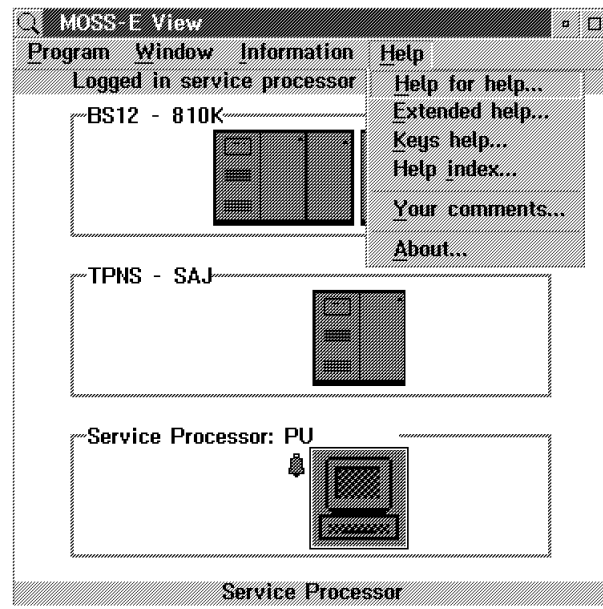
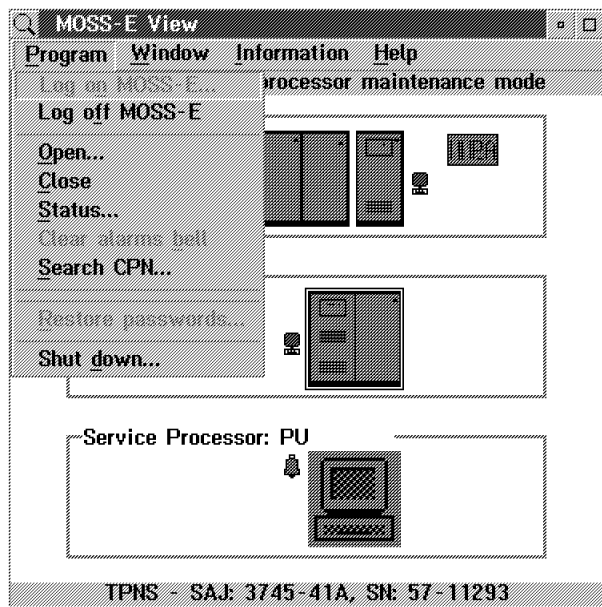
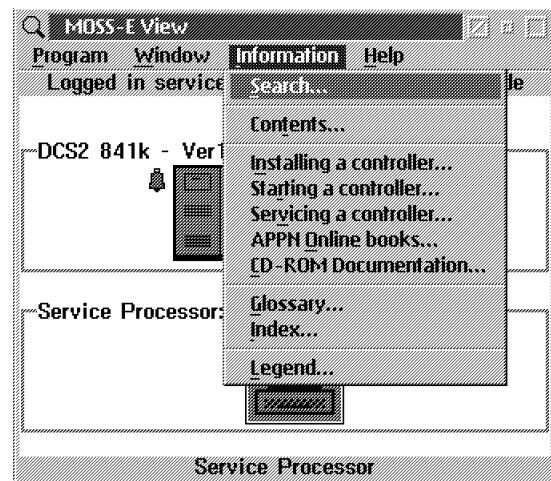

Figure 2-2. Help Pull Down Menu
Figure 2-3. Program Pull Down Menu
Figure 2-4. Information Pull Down Menu
1. The **Help** option of the **title bar** of the screen (example: see Figure 2-2 on page 2-3).
From this screen, clicking on Program , Information, or Help, you will get all the information to manage your controller. The other options will help you find specific information (see Figure 2-3 on page 2-3, Figure 2-4 on page 2-3, and Figure 2-2 on page 2-3).
1. From the Help pull down menu (see Figure 2-2 on page 2-3), select **Help for Help**.
1. From the **Information pull down menu** click on **Legend** (see Figure 2-4 on page 2-3).